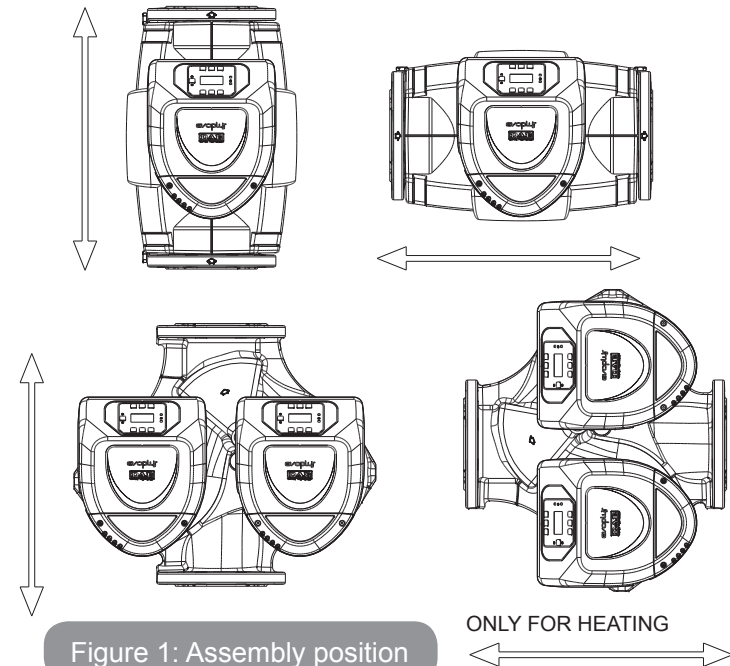

Figure 1: Assembly position
**Always install the EVOPLUS circulator with the motor shaft in a horizontal position. Install the electronic control device in a vertical position (see Figure 1)**